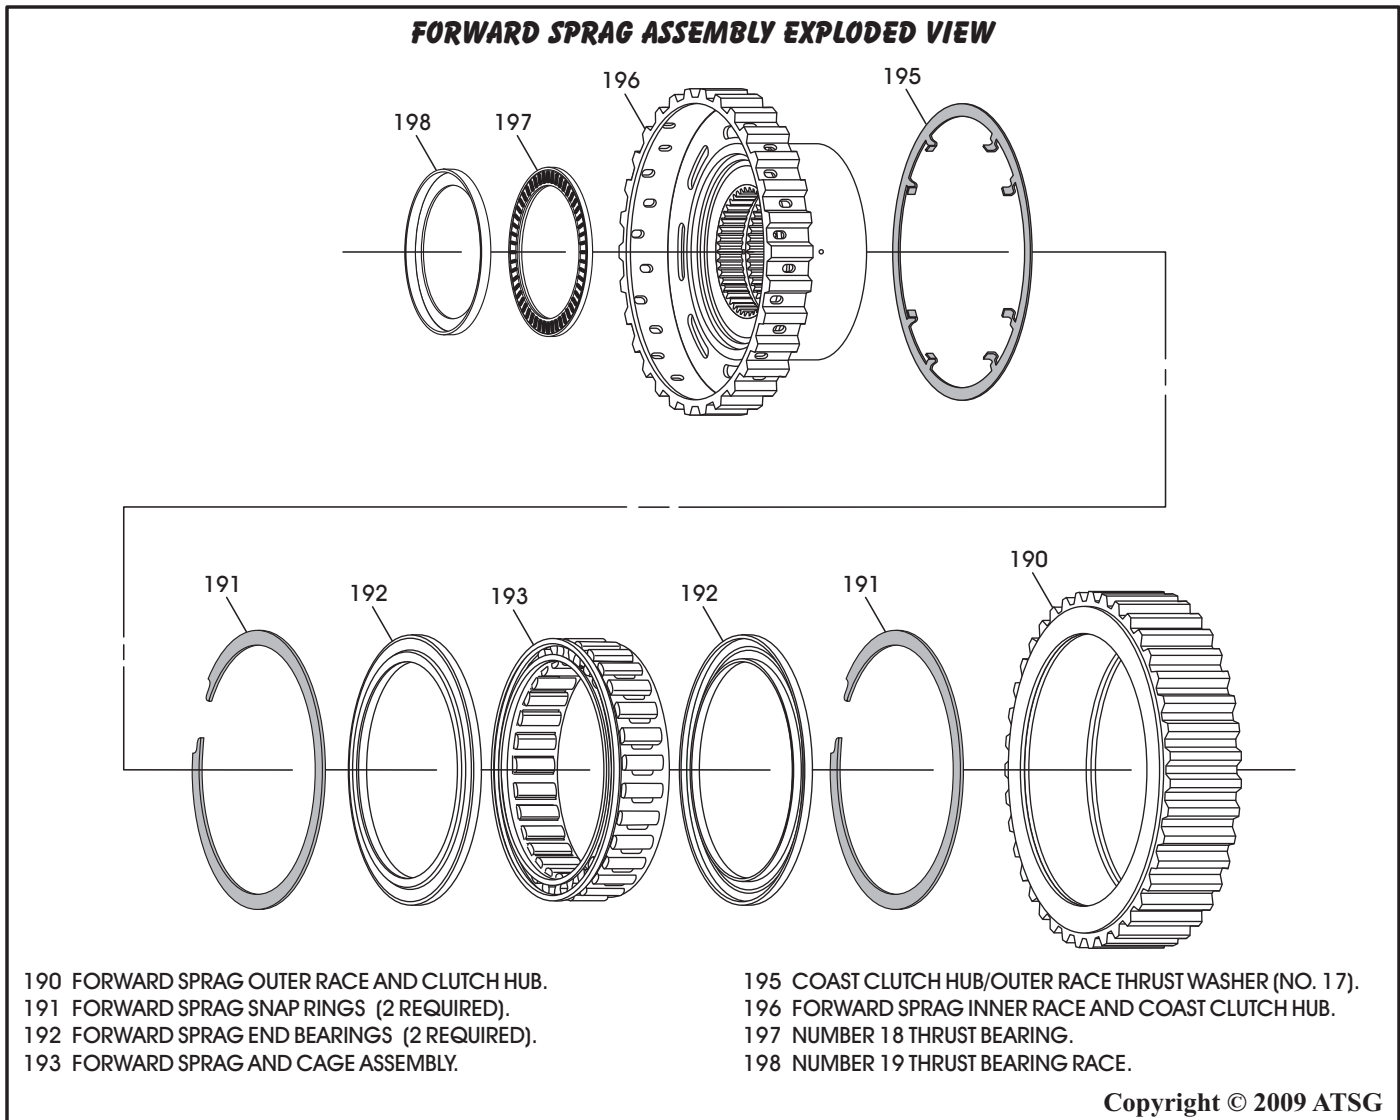

Figure 155
1. Disassemble the forward sprag assembly using Figure 155 as a guide.